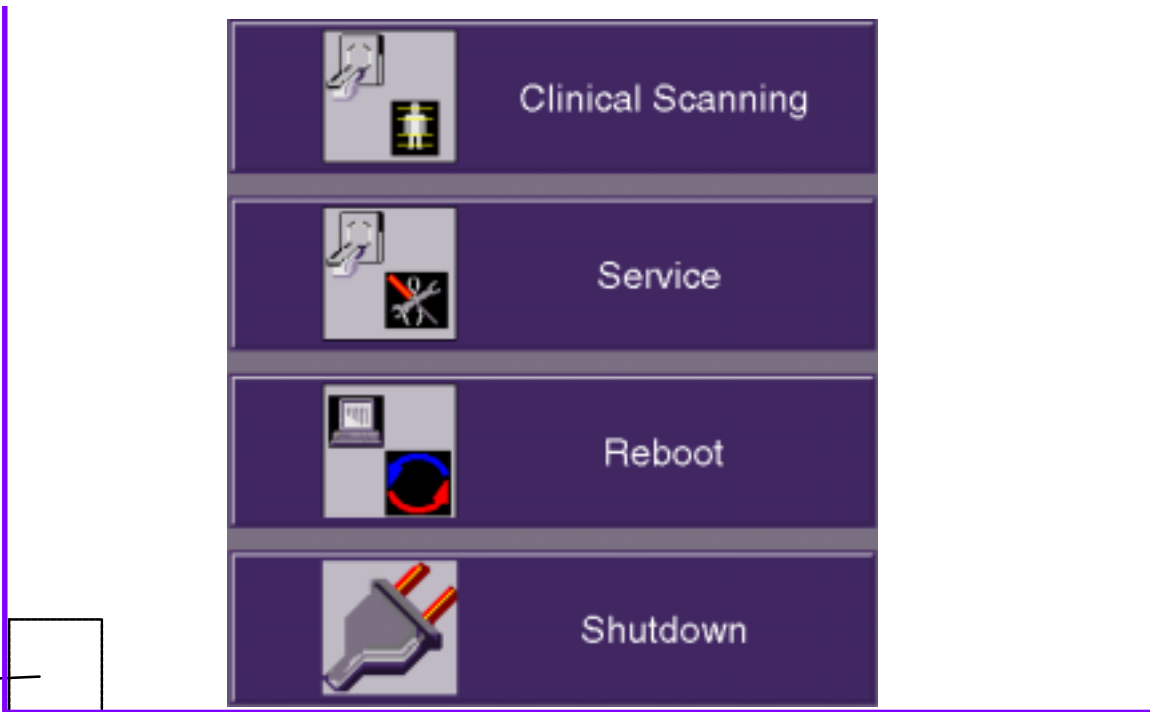
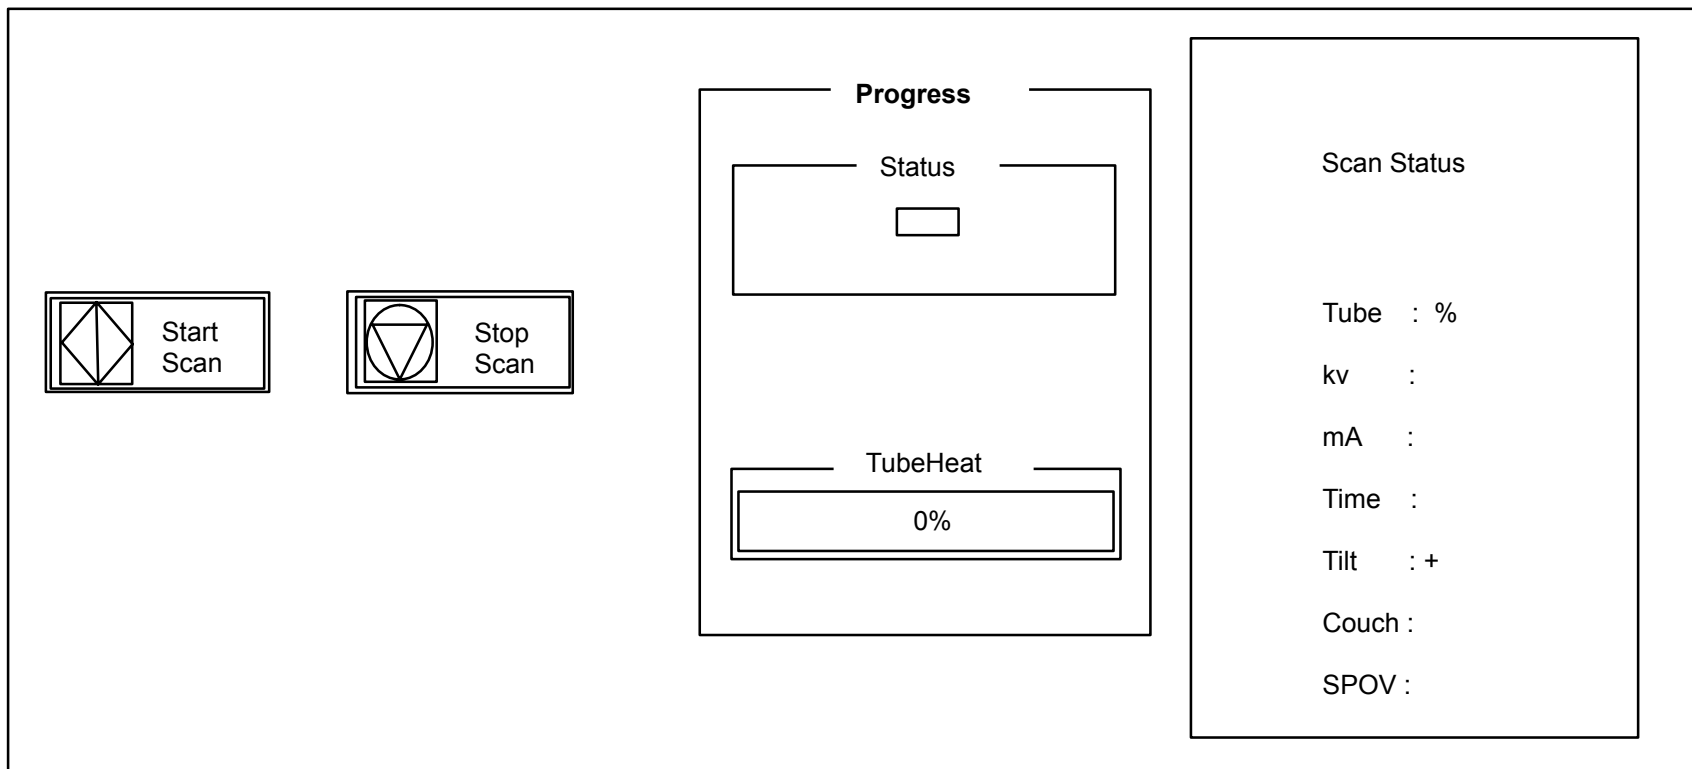

FIGURE 325 4 BUTTON SCREEN
FIGURE 326 TUBE WARM-UP STATUS WINDOW
1. Make sure the Gantry keyswitch is in the normal position. Turn the Display Tower keyswitch to the **ON** position. After the system boots, you will be prompted with the startup application display (or “4 Button Screen.”) You have **4 boot options**. Refer to Figure 325.:
3. To perform a tube warm-up, click on the Tube Warm Up button with the mouse pointer. Refer to Figure 325. This will initiate the warm-up sequence and **X-RAYS WILL BE EMITTED**. The tube warm-up status is displayed in the Tube Warmup Window. Refer to Figure 326.
1. From the 4 Button Screen (Figure 325) click on SHUTDOWN with the mouse pointer.